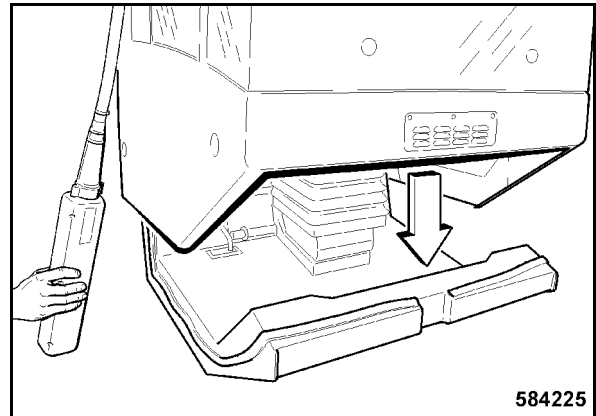

Fig. 207
- Slowly lower the cabin vertically to the operator's stand (Fig. 207).